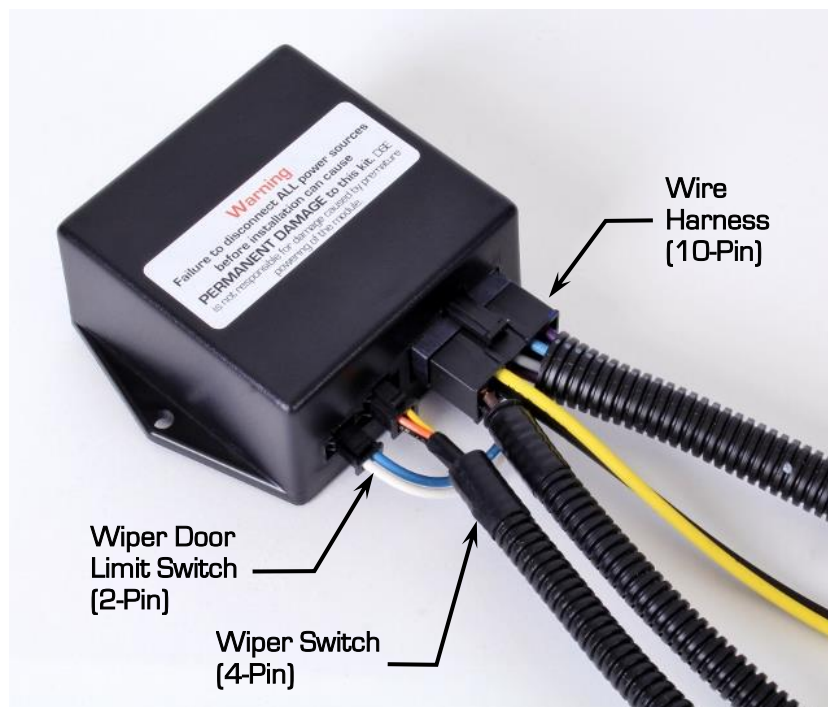

Figure 28– Connect Wiper Switch, Limit Switch & Harness to Module
39. With the wiper control module in place, plug in the wiper switch, wiper door limit switch and wiring harness connectors into the control module (Figure 28).